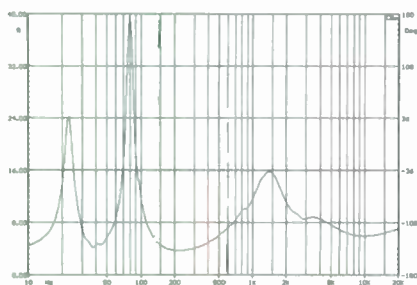

FIGURE 2: The A652's impedance.
*Figure 2* is a plot of the A652 system impedance. Below 200Hz, you see the classic double-peaked curve of a vented